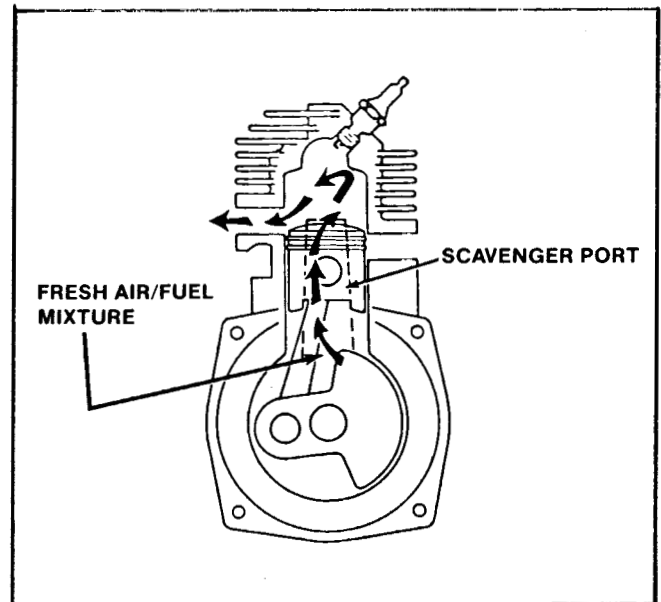

Figure 93
9. The scavenger ports are uncovered resulting in a fresh air/fuel mixture being forced into the combustion chamber by the crankcase pressure. Note that this process is not 100% efficient and that some exhaust gases are mixed with the fresh air/fuel mixture. See Figure 93.